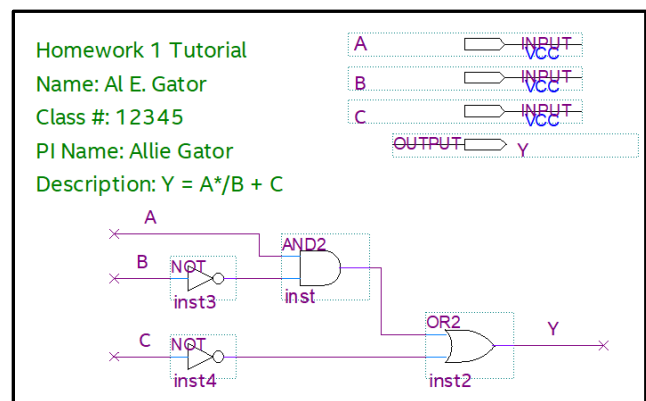

Figure 4: BDF with inputs and outputs
1. In the same manner that you placed a gate onto the bdf, add three input pins from the “Symbol” libraries. Input pins can be found under “primitives | pin | input” (or just type **input** just as you typed **not** previously in the “Name:” box). I suggest placing these inputs together, above your logic diagram and just to the right of your name as shown in Figure 4.
3. In the same manner and in the same library that you found the input pins, add an output pin from the “Symbol” library. I put this output pin under and to the right of the input pins. Change the pin name to ‘Y’ on the output port, as shown in Figure 4.
6. The “A” label will connect the input labeled “A” to this wire. Similar connections are made by the labels on the other inputs and output. The bdf should look similar to Figure 4.